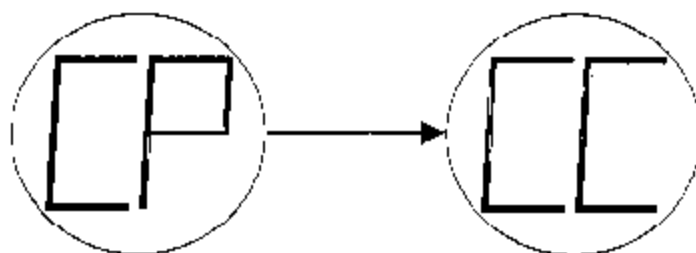

figure 23
- After one or two minutes the display will change from "CP" to "CC" (figure 23) indicating that the calibration is complete.